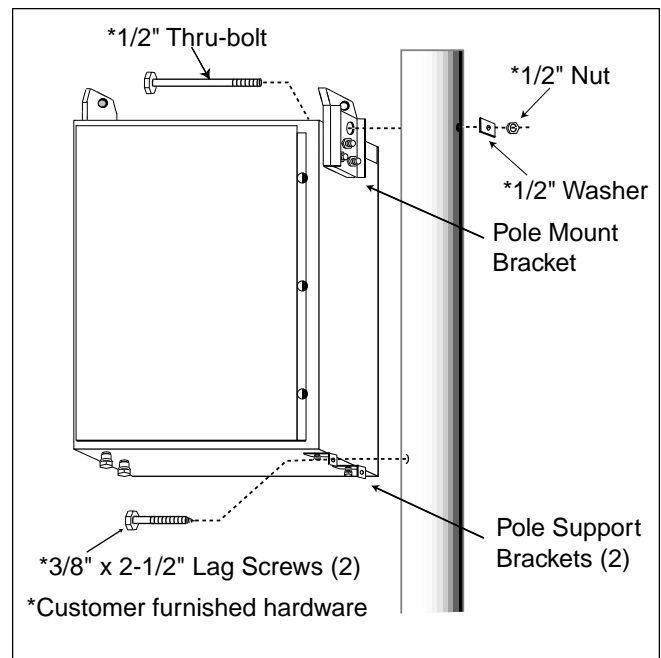

Figure 10. Guide for Pole Mounting
- After determining the appropriate upper mounting height of the cabinet, drill a 5/8" hole through the pole for the top pole mounting bracket. The 1/2 inch diameter through-bolt, nut, and washers are customer supplied. Install the bolt through the pole and tighten to leave the bolt head approximately 1 3/4 inches from the pole to allow the upper pole mounting bracket to slide over and down, catching the bolt head. Refer to **Figure 10**.